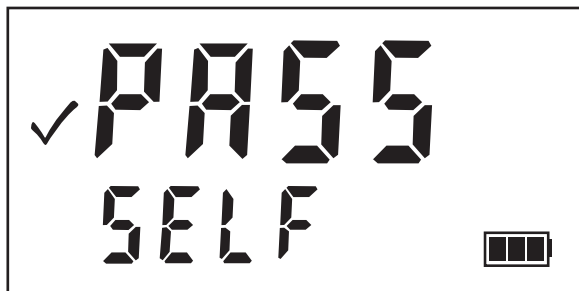

Figure 26
2. Press the TRIGGER to complete the Self Test. Figure 26 shows an example of all tests proving positive.